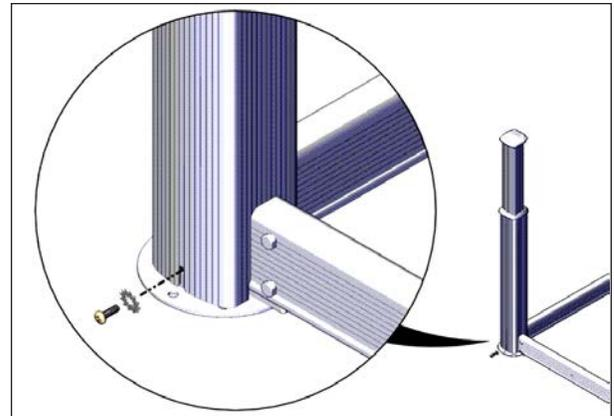

FIGURE 27: MOUNTING SCREW ON THE SLEEVE
21. Fasten the sleeve with the Phillips M6 x 20 mm screws at the bottom of all four sleeves, see Figure 27.